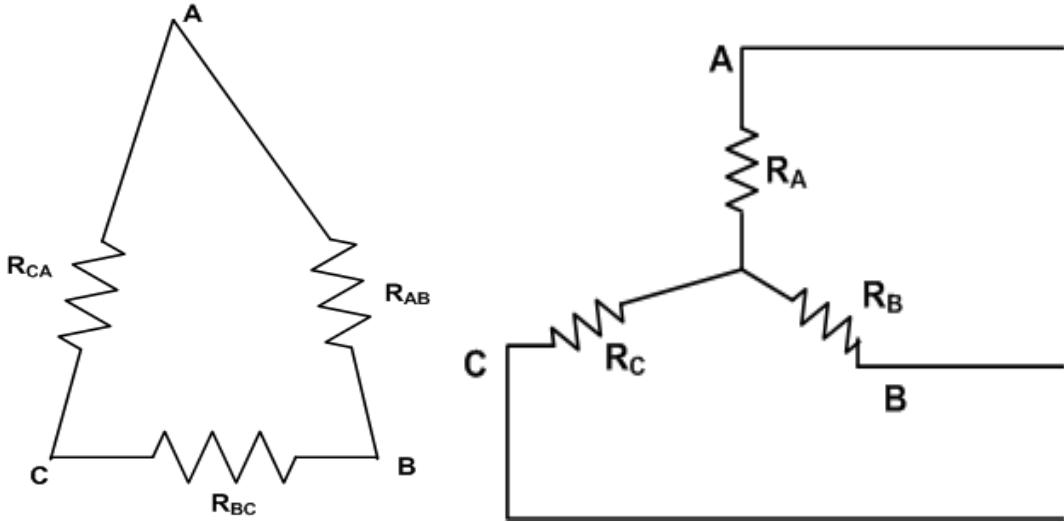

Fig. 1.4.1.
1.4.1. **Delta to Star Conversion**:- From Fig. 1.4.1 (a),  $\Delta$  : Between A & B, there are two parallel path.
From Fig. 1.4.1 (b), STAR: Between A & B two series resistances are there  $R_A + R_B$ . So, terminal resistances have to be the same.